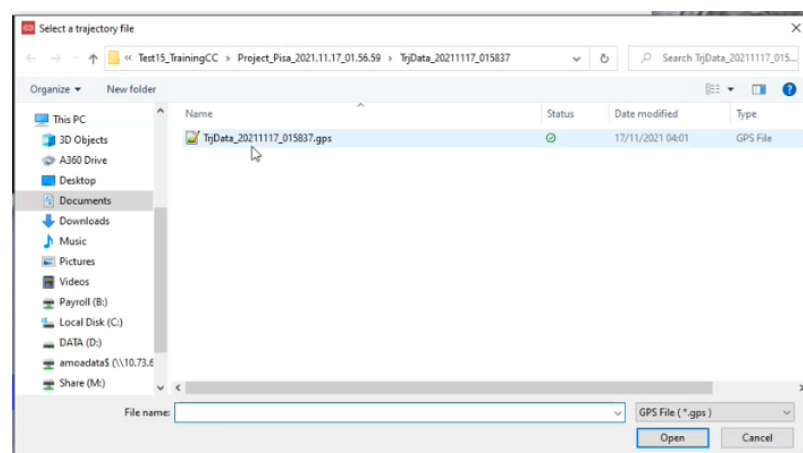

Fig. 82 – TrjData import
4. Browse from the saving folder, the **TrjData.gps** file associated to selected APS Survey and press **Open** (Fig. 82);